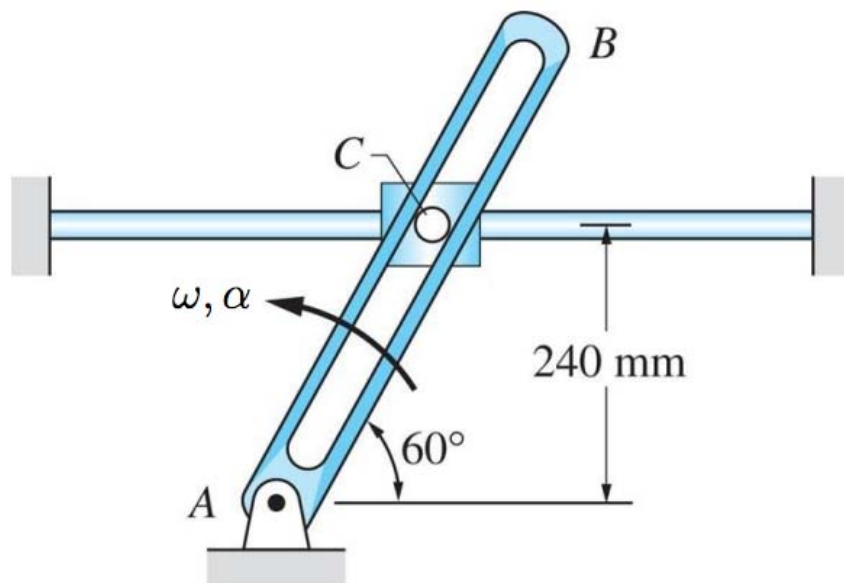

Figure 2
2. Figure 2 shows a collar C whose pin is constrained to slide within the slot cut into link AB, and the collar is pushing the link AB to force the link to rotate about the pivot point A. At the instant shown, the collar is moving to the left at a speed of 2 m/s and accelerating at 5 m/s². Using a rotating axes system with the x-axis to be along the link AB, calculate the following: